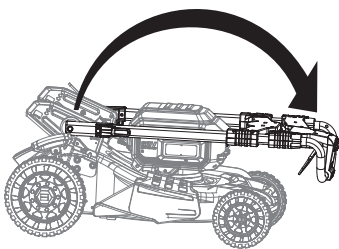

Fig. 13C
5. Gently pivot the handle from the working position to the folded position until you hear a click, indicating it is locked in place (Fig. 13C).